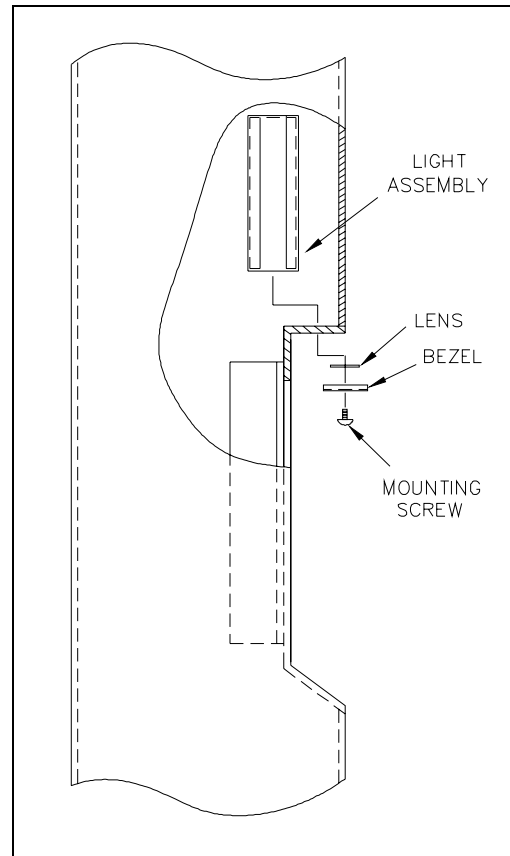

Figure 7. Stanchion Panel Light Assembly
2. Align the stanchion panel light assembly inside the stanchion as shown in Figure 7.